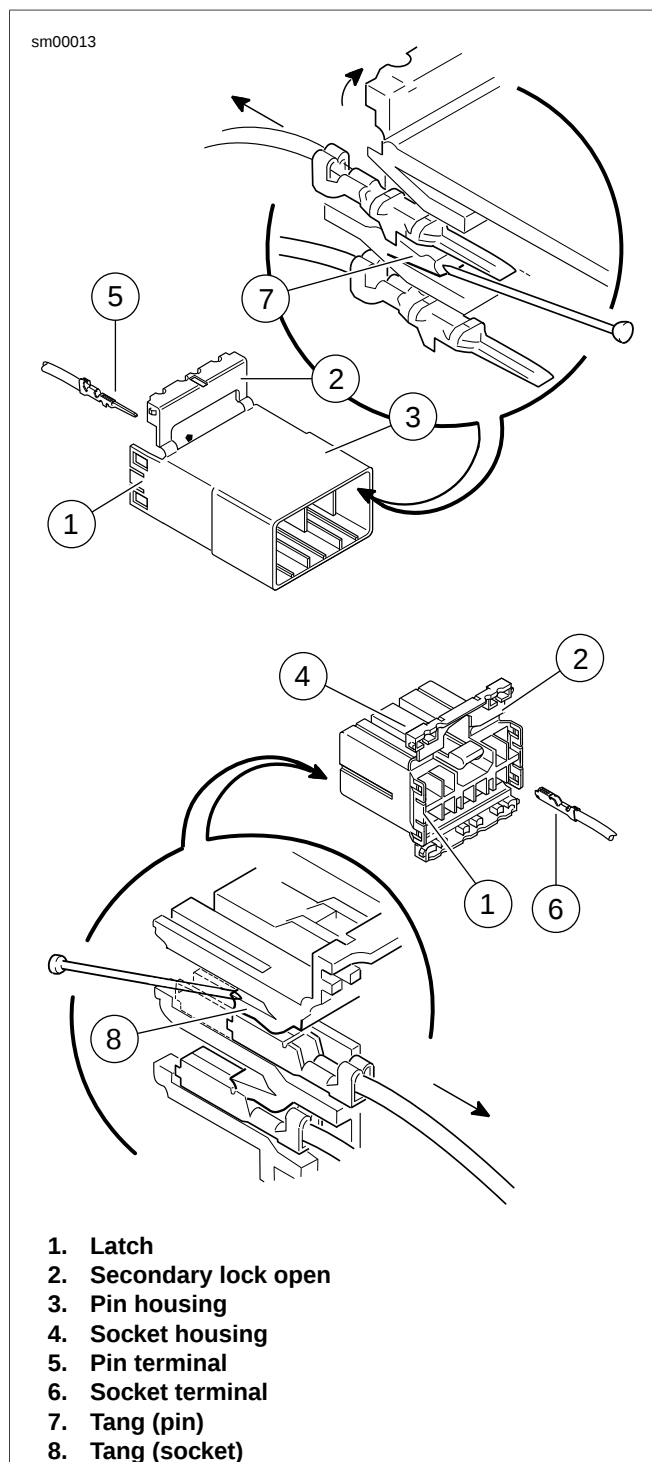

Figure A-59. Tyco 070 Multilock Unsealed Connector:
1. See Figure A-59. Bend back the latch (1) to free one end of secondary lock (2) then repeat on the opposite end. Hinge the secondary lock outward.